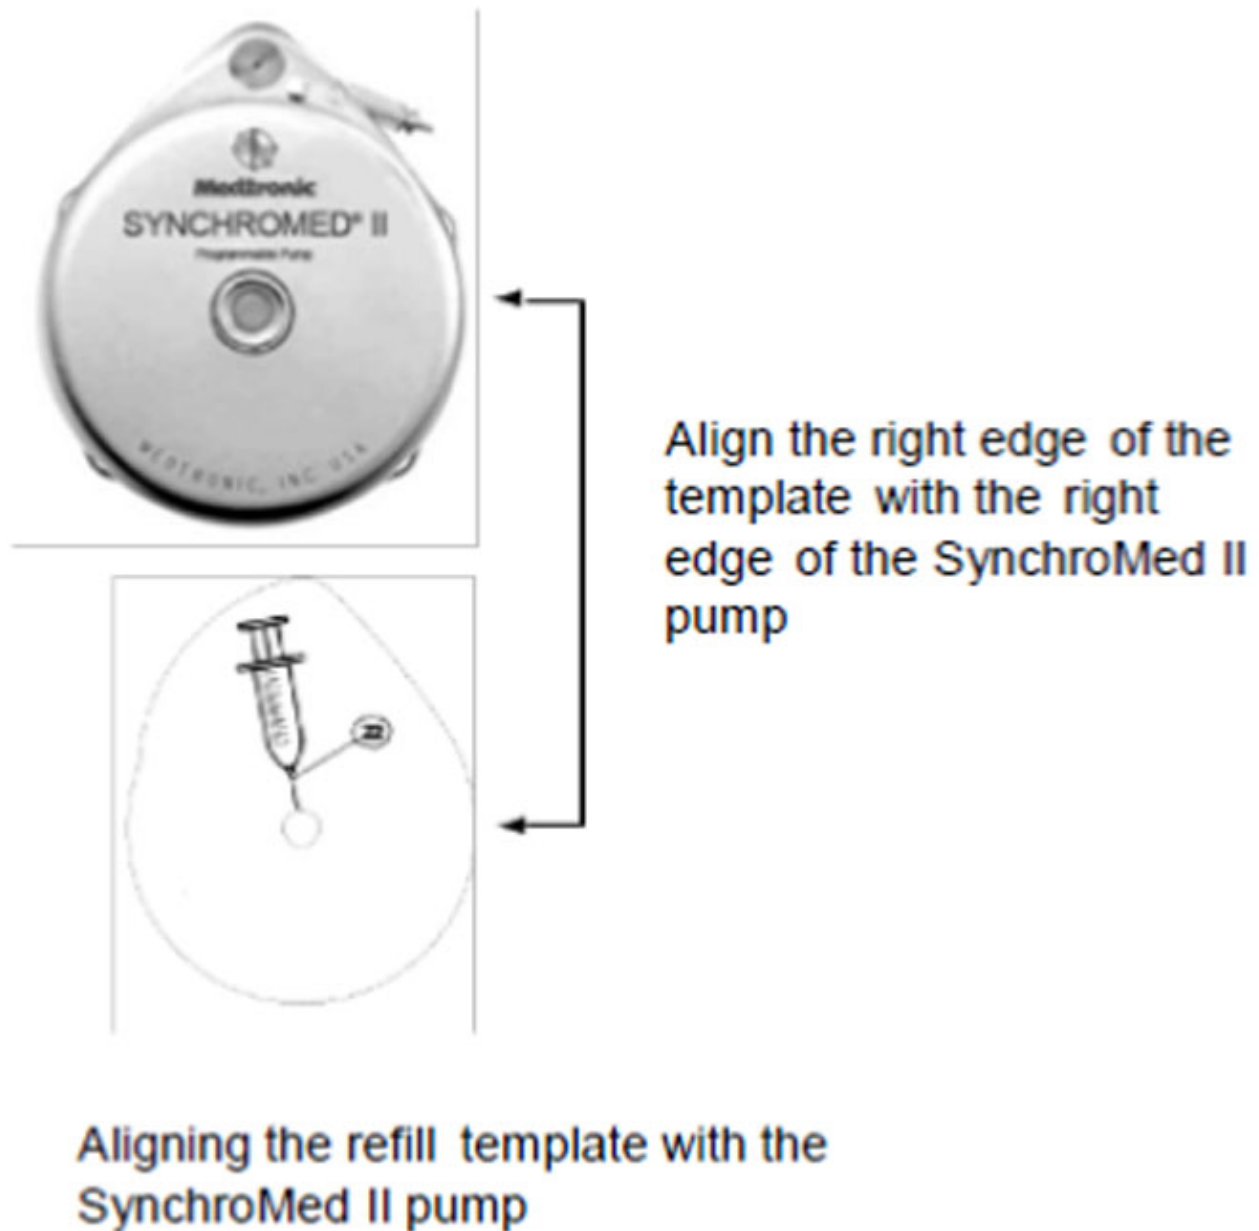

Figure 2. *Aligning the refill template.*
6. Place the template on the skin over the pump, and align the refill template. Align the right edge of the template with the right edge of the pump (Figure 2). Use the center circle of the template to insert the needle into the reservoir fill port.